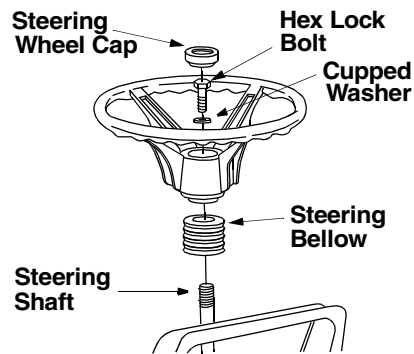

Figure 2
- Place the steering bellow over the steering shaft extending through the dash. See Figure 2 .
- Place the washer with the cupped side down over the steering shaft. Secure with hex lock bolt. See Figure 2 .